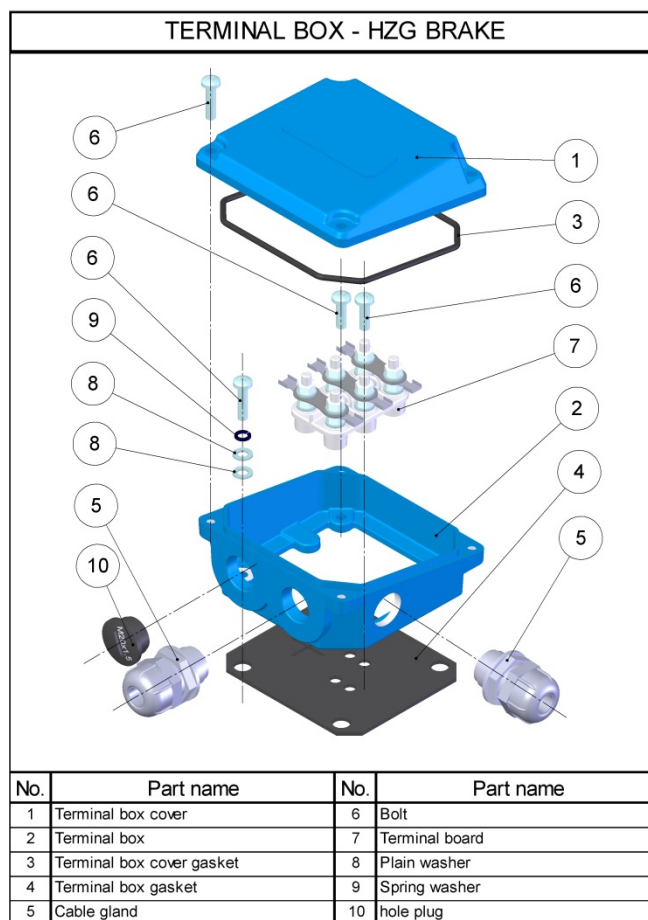

Fig. 16
- version with an HZG brake (fig. 16)